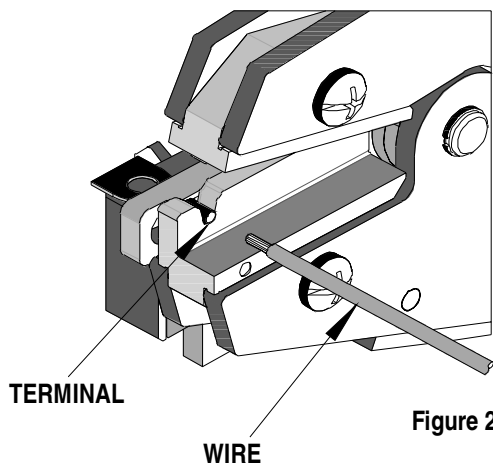

Figure 2
2. Partially close the tool to hold the terminal in place. See Figure 2.
3. Insert the properly stripped wire into the terminal barrel. See Figure 2 and 3. The wires end should stop against the locator bar. Cycle the tool.